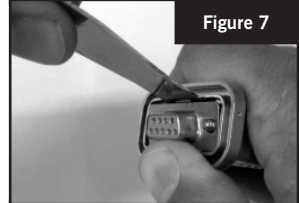

Figure 7
11. Place the assembly key between the opposite side of the waterproof hood and D-sub connector and gently pry the hood while pushing the D-sub connector into the slot. (See figure 7)